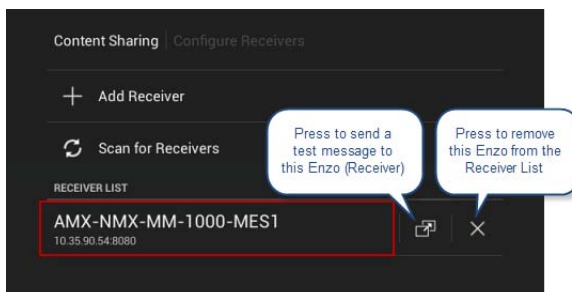

FIG. 44 RECEIVER LIST - Send Message icon
- Press the back button in the G5 Menu Bar to return to the main Content Sharing page. The Enzo receiver should now appear in the *RECEIVER LIST* (FIG. 44):
3. Press **OK** to save changes and close the *Configure Receiver* window and on-screen keyboard. The Enzo receiver should now appear in the *RECEIVER LIST* (FIG. 44):